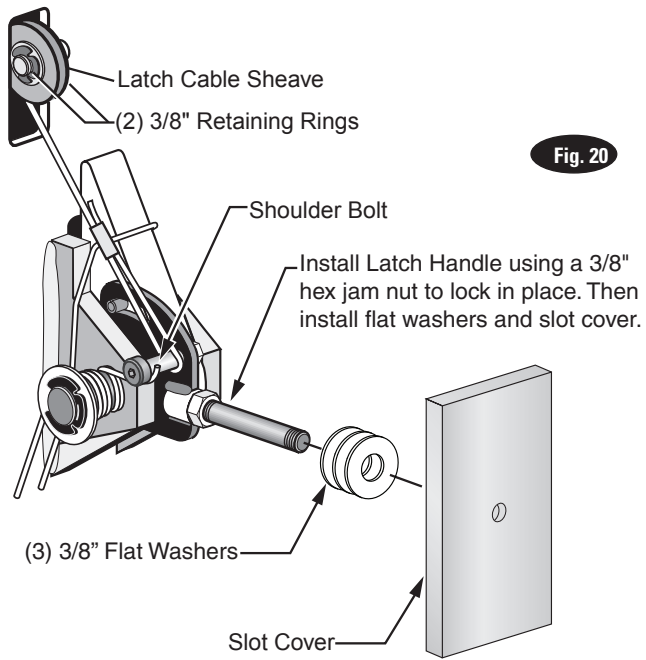
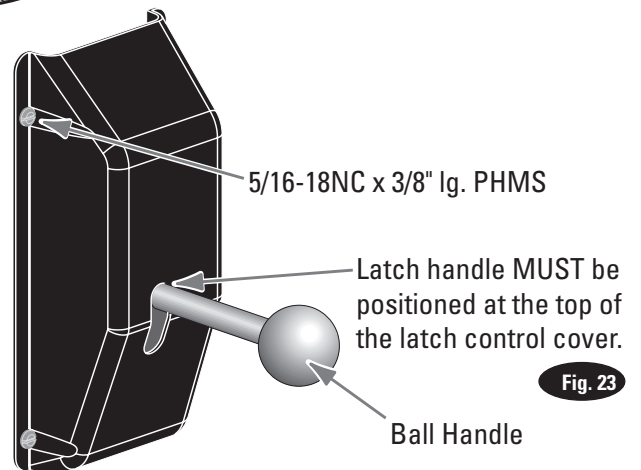

Fig. 20
Fig. 23
- A) Install latch cable sheave and retaining rings in upper slot of power unit column as shown, Fig. 20.
- B) Slip loop end of cable over end of shoulder screw on right side latch control plate, Fig. 20.
- C) Feed the other end of the cable through the latch cable sheave slot making sure that the cable is running under the bottom side of the latch cable sheave and inside the right column, Fig. 20.
- I) At this point you **MUST** install the latch handle, jam nut, and right column latch cover Fig. 20 & Fig. 23. Install latch handle ball, Fig. 23.